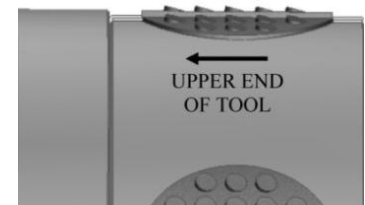

Fig. 4
K-2.7.2) Install hold down buttons (30) into hold down body (6) (Fig. 4).